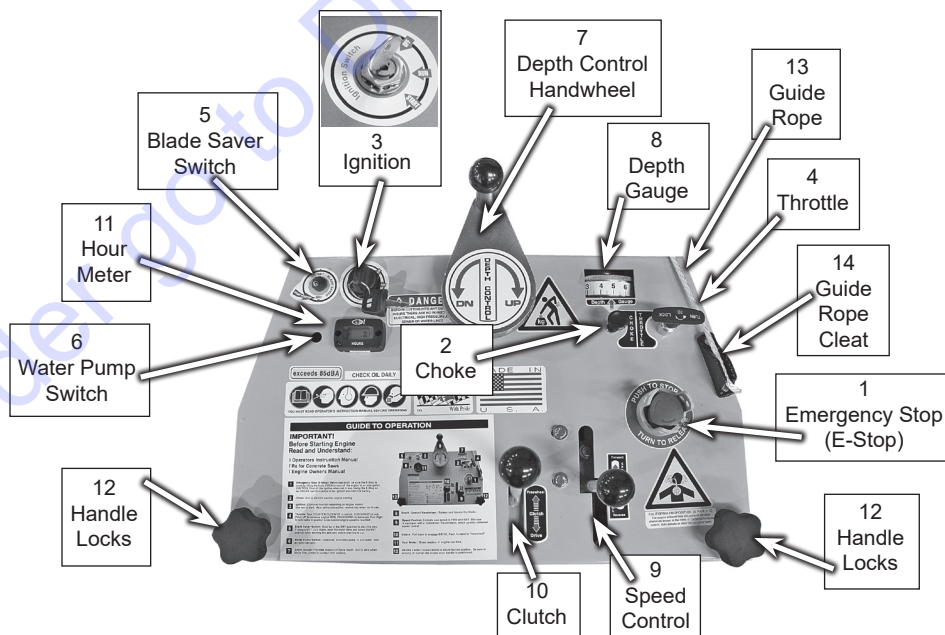

Figure 2
- Locate and be familiar with all engine and saw controls (*Figure 2*).
- Turn Engine Ignition key to START. After engine starts, leave Engine Ignition in the RUN position. Ignition position on saw will vary depending on engine. (Review *Figure 2*)